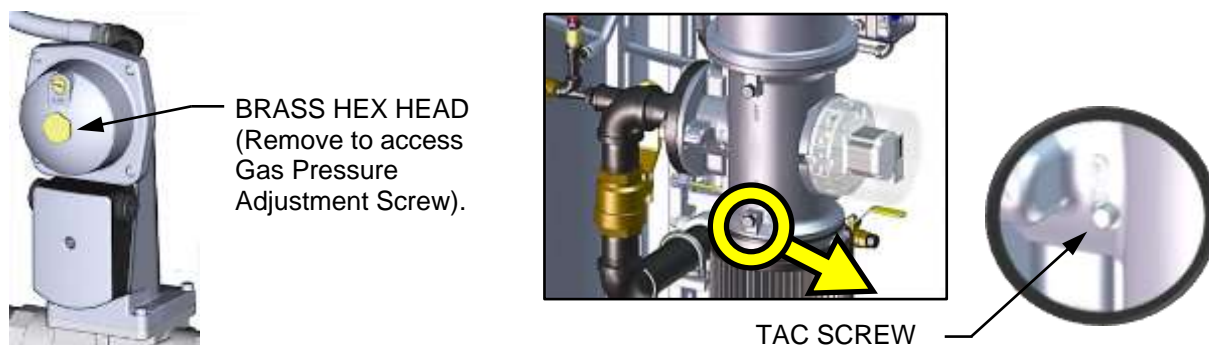

Figure 4-3: Gas Pressure Adjustment Screw and TAC Screw Location
15. Verify that the manifold gas pressure on the **downstream** side of the SSOV is within the range shown in Table 4-1. If it isn't, remove the brass hex nut on the SSOV actuator to access the gas pressure adjustment screw (Figure 4-3). Make adjustments using a flat-tip screwdriver, slowly rotating the gas pressure adjustment (in 1/4-turn increments) **clockwise** to **increase** gas pressure or **counterclockwise** to **reduce** it. The resulting gas pressure reading on the **downstream** manometer should fall in the range listed below.